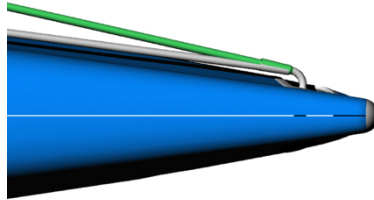
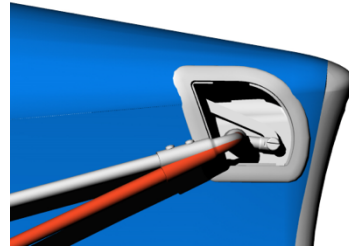

Figure 1
Figure 2
- (7) The wand axle elbow may be bent to change the distance of the wand from the side of the boat (fig.1), but not to change the gearing screw angle to the wand in side view (fig.2).